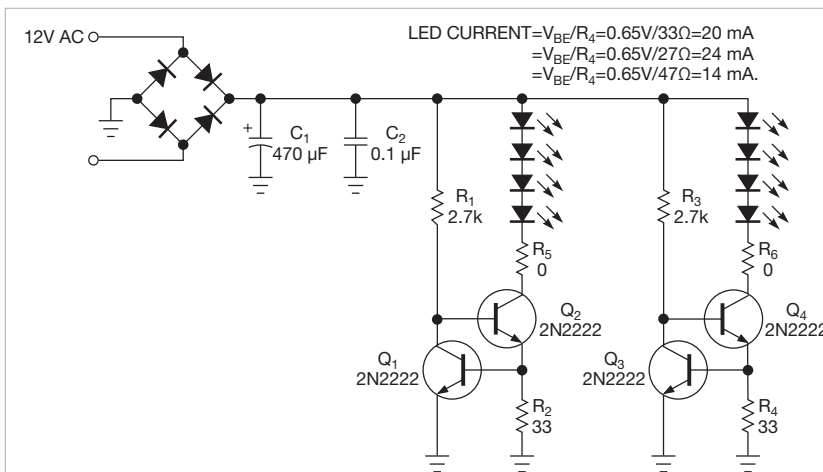

Figure 1 A simple two-transistor, two-resistor circuit is a good fit for outdoor-lighting applications.
▶ Keeping low-voltage outdoor lights illuminated takes some effort. Bulbs burn out, and connections corrode. HB LEDs (high-brightness light-emitting diodes) seem like acceptable replacements, but most are available only in surface-mount packages, which aren't conducive to a backyard project. In addition, you must create a reflector for tiered lighting. Low-power LEDs, which come in finished packages, are more appealing, but you must have a way to drive them. Numerous driver ICs are available, but they, too, usually are available in surface-mount packages. Furthermore, the cost of the parts can add up to an expensive project. The simple two-transistor, two-resistor circuit in **Figure 1** provides a better fit for this application.